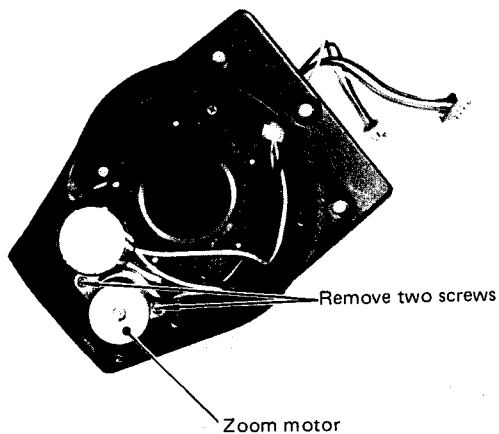

Fig. 4-7
- o Remove two screws which hold the zoom motor assembly and remove the zoom motor assembly. (Fig. 4-7)